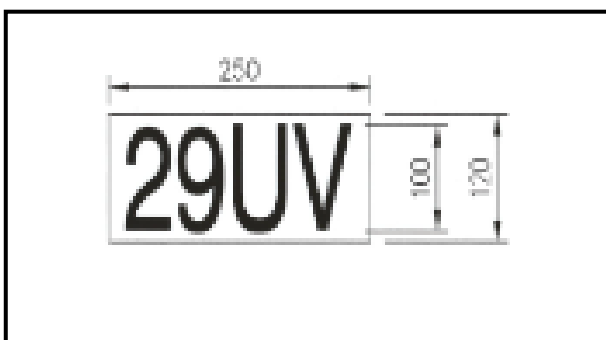
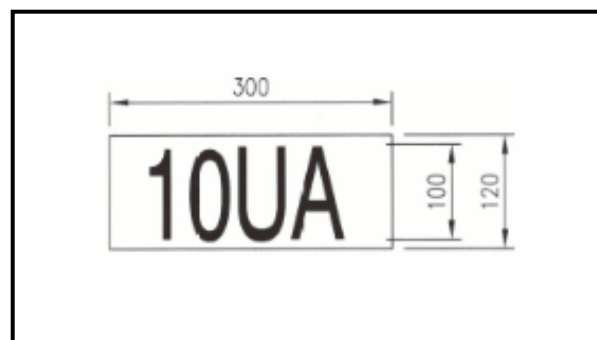

Figure 1: TC03 Reduced Stacking Decal (6 Off)
Figure 2: TC05 Reduced Stacking Decal (6 Off)
This Customer Notice is directed to customers who currently own or are in custody of IP-2 ISO TC03 or IP-2 ISO TC05 designs. All TC03s and TC05s must be fitted with the reduced stacking decals (see Figure 1 and Figure 2). LLWR are distributing decals by courier/post free of charge to customers on a site by site basis, on a priority basis based on international shipments. Please affix the TC03 and TC05 decals in accordance with instructions below immediately upon receipt of the decals.
2. Receive/Obtain decals from LLWR as per fig 1 or fig 2.